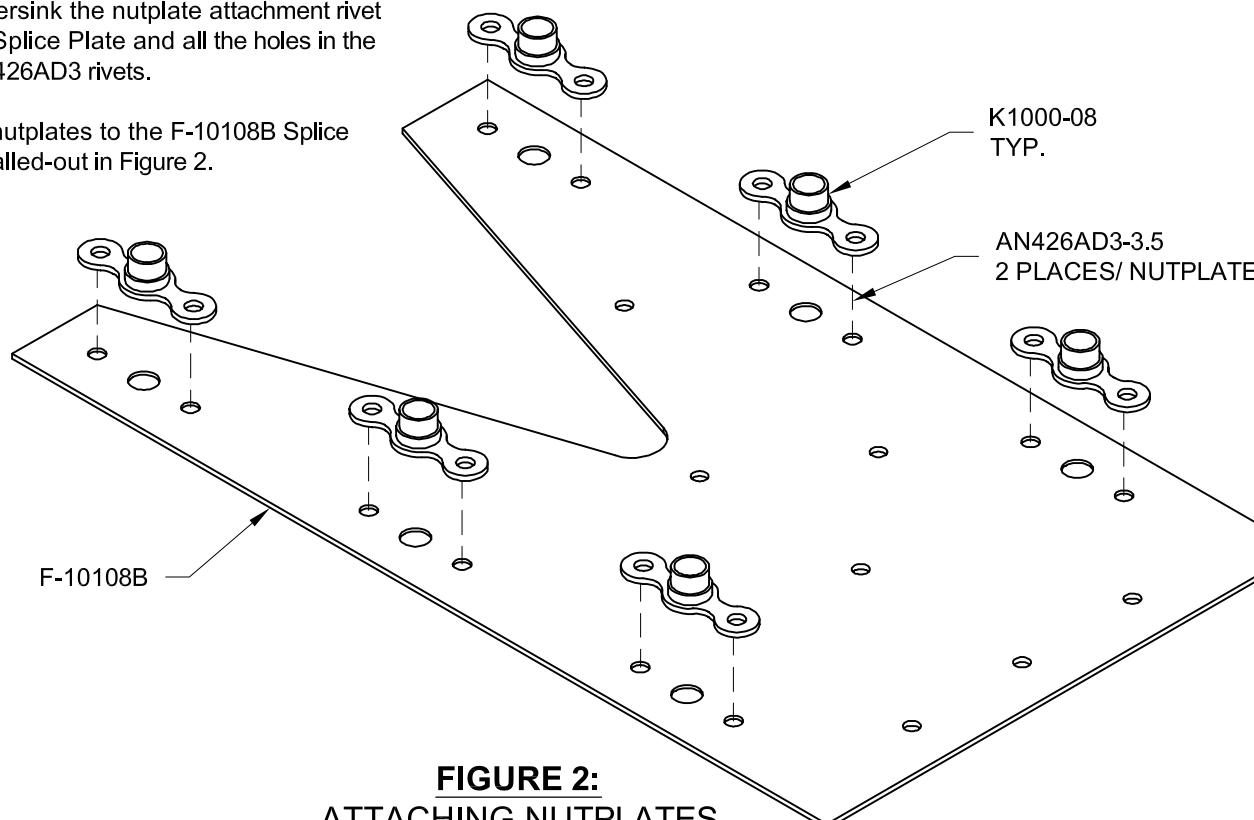

FIGURE 2:
Step 6: Trim the slot for the WD-1017-1 Nose Gear Leg Assembly so that it is even with the edges of the F-10109 Louvers as shown in Figure 2.
Step 4: Attach the six nutplates to the F-10108B Splice Plate using the rivets called-out in Figure 2.